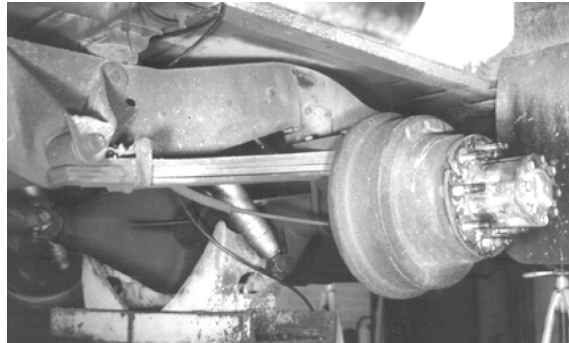

fig. 5
6. Secure lower bracket to the air spring using the 3/8” lock washers (N) and 3/8”-24 x 7/8” hex head cap screws (M). Torque to 20 lb.-ft. (27Nm).
7. This completes the assembly of the passenger’s (right) side (Fig. 5). Now assemble the driver’s (left) side in the same manner.